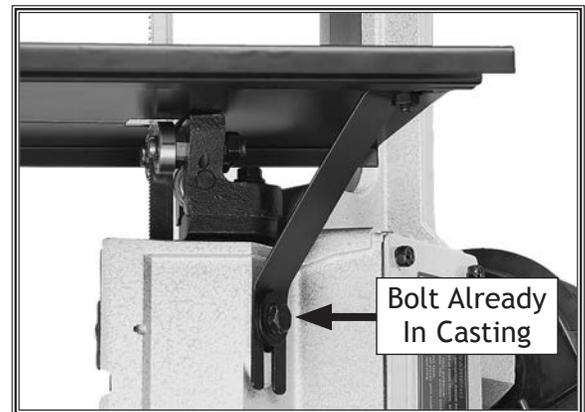

Figure 22. Table and table bracket installed.
4. Install the table bracket with the pre-installed hex bolt, the M6-1 x 12 flat head screw, and the M6-1 hex nut, as shown in **Figure 22**.